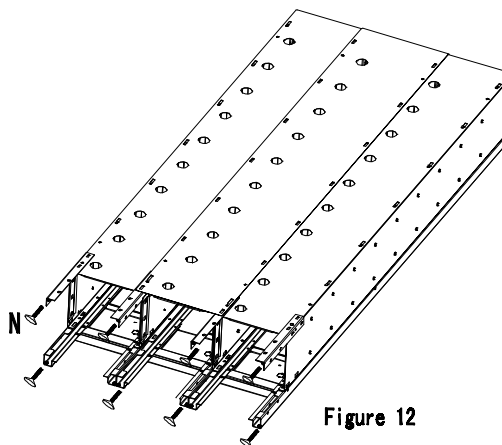

Figure 12
Screw (H) the leg leveler (N) into the bottom of the assembled Door Frames (A) and legs (G). (Figure 12)